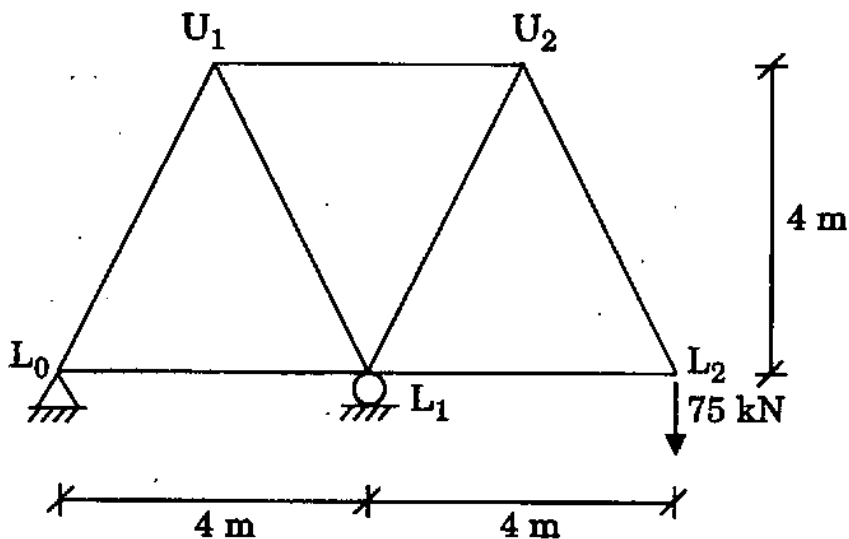

Figure 5
3. (a) Determine the vertical deflection of joint L_2 of the truss shown in Figure 5. The area of cross-section of the members is 20 cm^2 each. Take $E = 200 \text{ GPa}$.